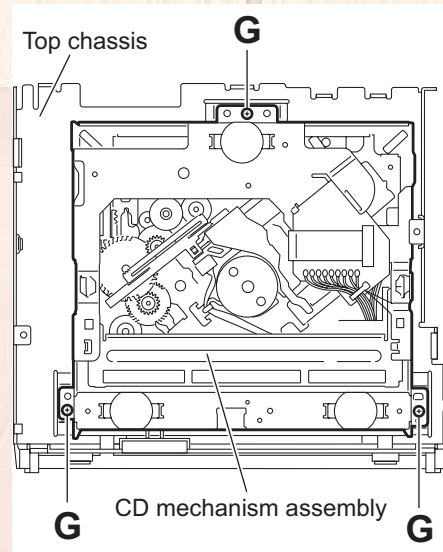

Fig.10
3.1.6 Removing the CD mechanism assembly (See Fig.10)